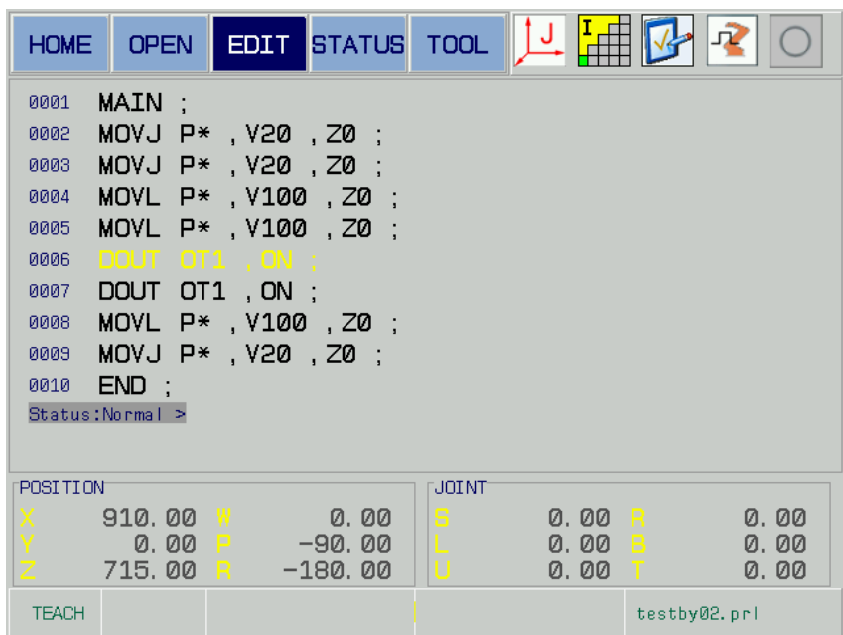

Fig. 5-28
It is supposed that we want to have one second dwell when the robot clamps the workpiece after moving to the clamping point, the following operations can be performed, and refer to the Fig. 5-28:
1. Open the program “testby02.prl”, enter the program display page; shift to edit method by [F3]; move the cursor to the 6th line program position by up/down direction button, in this case, the edit mode is Normal mode; refer to Fig. 5-28.